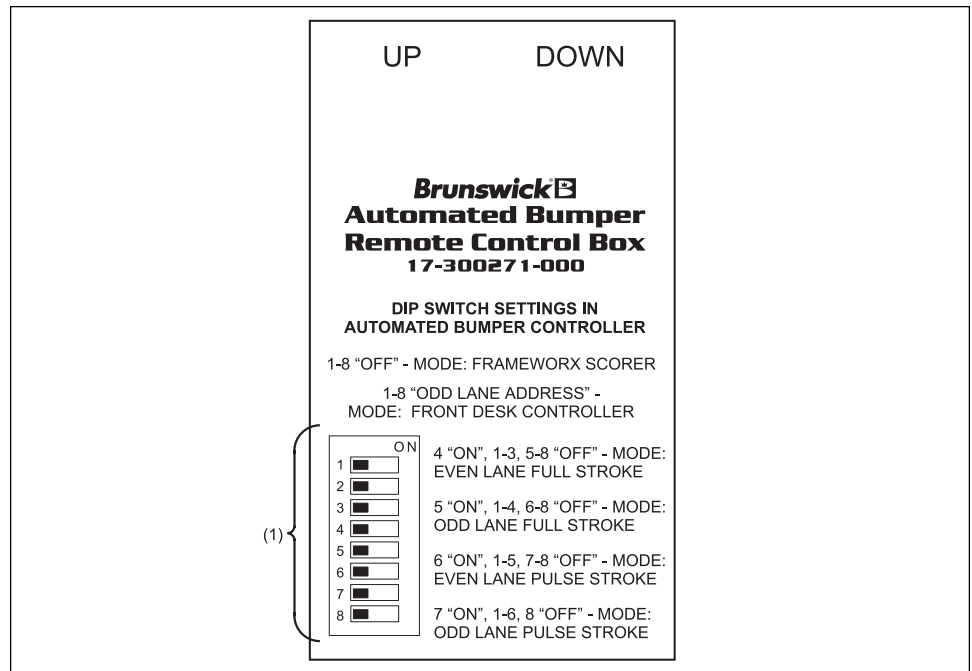

Figure 13. Automated Bumper Remote Control Box
2. Set DIP switches inside automated bumper controller as listed in *Figure 13*.
NOTE: DIP switch settings as listed in Figure 13 are for raising/lowering rails for visual check and/or performing adjustments to the system only! All DIP switch settings within automated bumper controller MUST be set to OFF before using Frameworx scorers or set to proper lane address with stand-alone controller configuration.